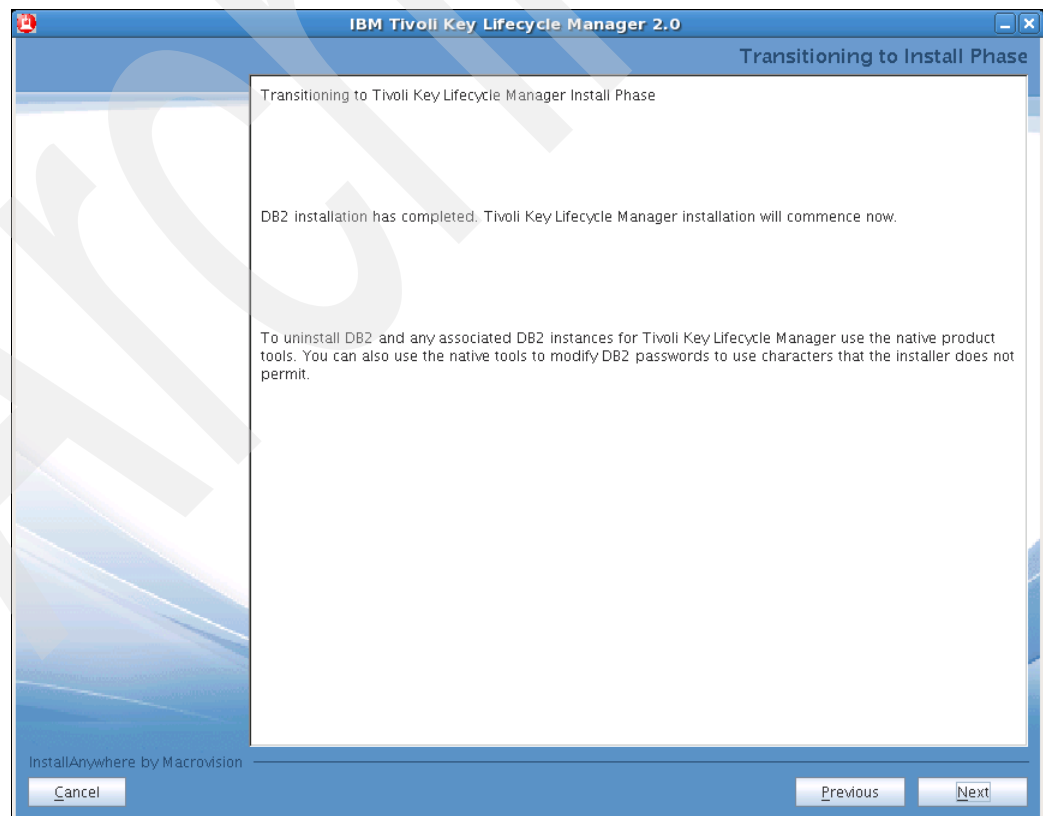

Figure 7-11 DB2 installation complete screen
14. When DB2 installation is complete the screen shown in Figure 7-11 is displayed. Click **Next** to start TKLM v2 deployment engine installation.